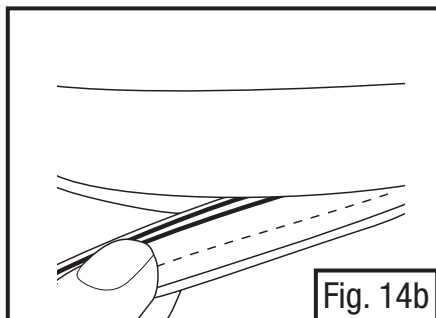

Fig. 14b
- Grasp the black shroud gasket and slowly pull straight out in small sections, working your way around the shroud (Fig. 14b).